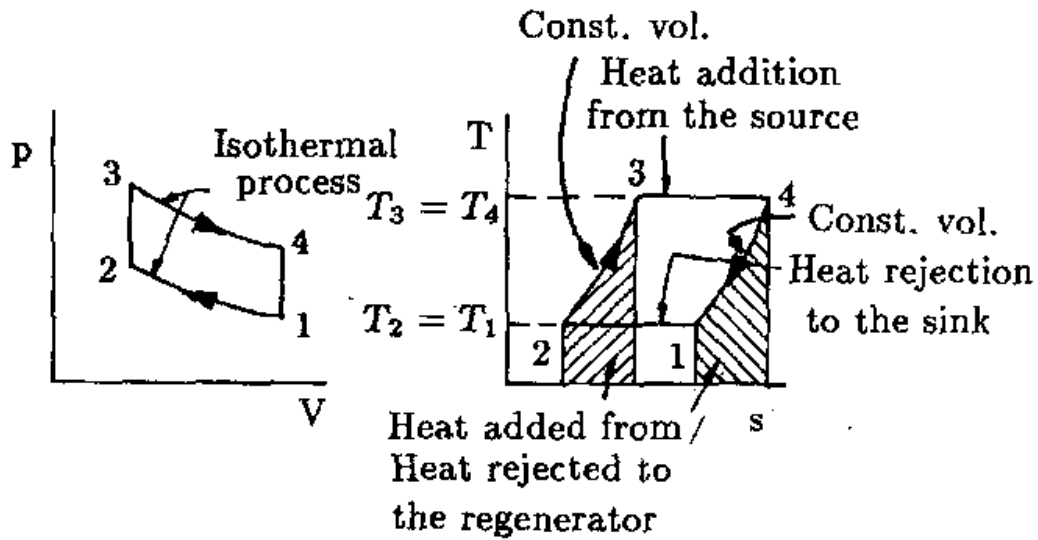

Fig 3.3 Stirling Cycle
- It consists of two isothermal and two constant volume processes as shown in Fig. 3.3.